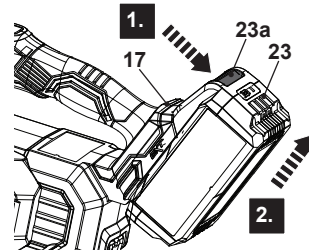

Fig. 14
2. Press the release button (23a) and remove the battery pack (23) from the battery docking port (17) (Fig. 14, steps 1, 2).